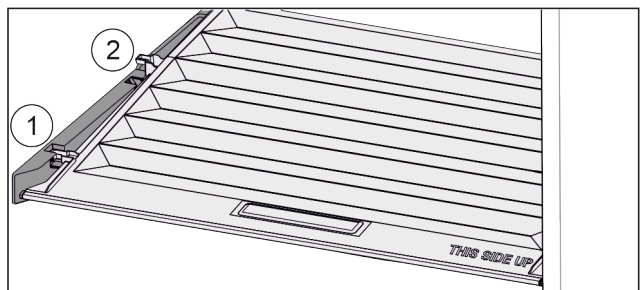

Fig. 34
- Pull the lid up at the front in the retaining parts to the opening Fig. 34 (1).
- Lift from the back and pull it up and out Fig. 34 (2).